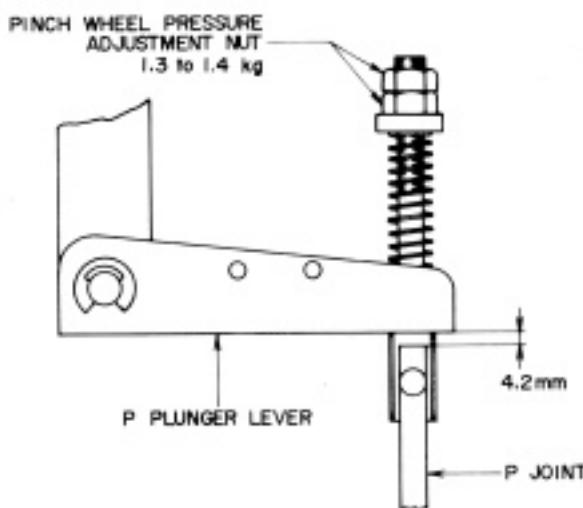

Fig. 2
- 2) Insert a 4.2 mm gauge (a U type washer etc.) between the P Plunger Lever and P Joint (Refer to Fig. 2).
#### 3. PINCH WHEEL PRESSURE ADJUSTMENT (Refer to Fig. 2)